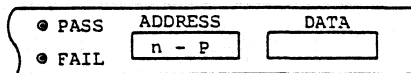

Fig. 1
- (1) Connect PG-1003 to PG-1000, plug in the power cord, then turn the power switch on. At this time, the panel display gives the indication shown in Figure 1, indicating that the PG-1000 is ready.